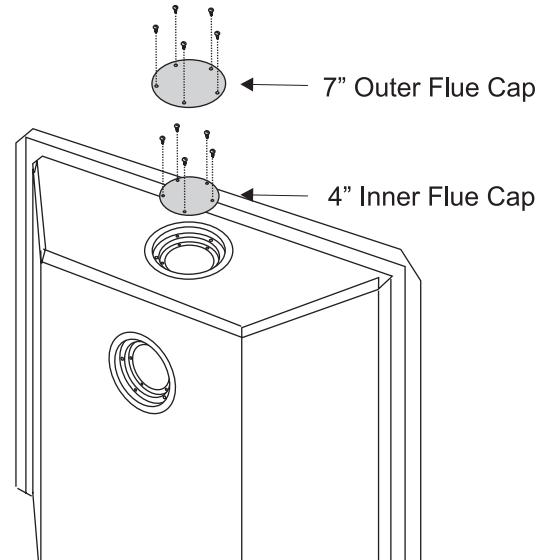

Figure 8a. Flue cap installation for Rear Vented fireplace.
1. Install the 4" inner flue cap on the top flue outlet and secure the cap in place with five screws, as shown in figure 8a.
2. Install the 7" outer flue cap on the top flue outlet, and secure it with five screws, as shown in figure 8a.